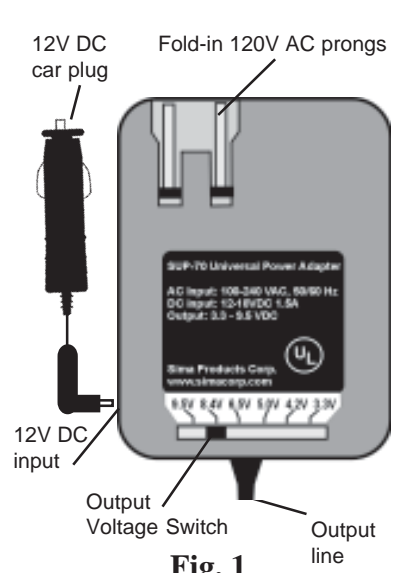

Fig. 1
- Set the output voltage switch, as illustrated in Fig. 1, to the desired output for your device. Choose from these settings: 3.3 / 4.2 / 5.0 / 6.5 / 8.4 or 9.5 V.
- Next, unfold the prong set, as shown in Fig. 3 at left, and plug the SUP-70 into a standard AC wall outlet. (To use the 12V car plug, plug the car cord into the SUP-70 as shown in Fig. 1 and plug the car cord into a car lighter or 12V socket.) The blue power light on the front of the SUP-70 should turn on.